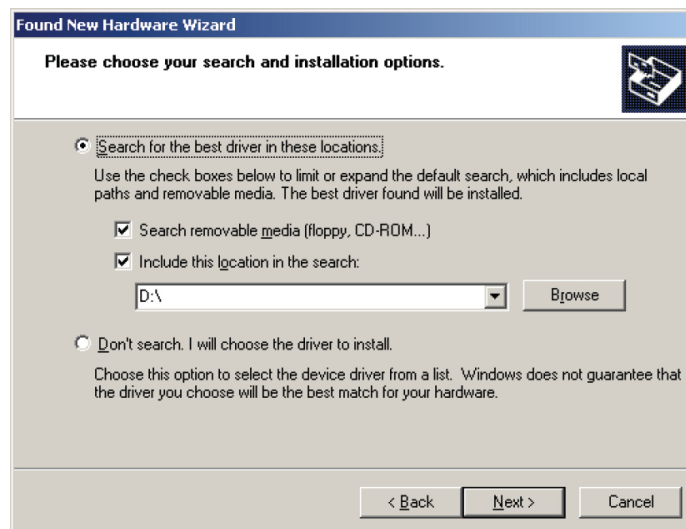

Figure 5. Hardware Wizard Screen 3.
- The screen in Figure 5 will appear. Browse to the location of the files extracted from the zip folder (see Step 3 of section 5.2). Click Next.